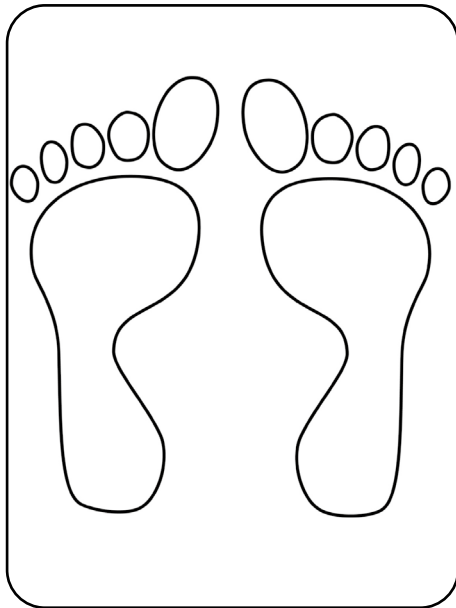
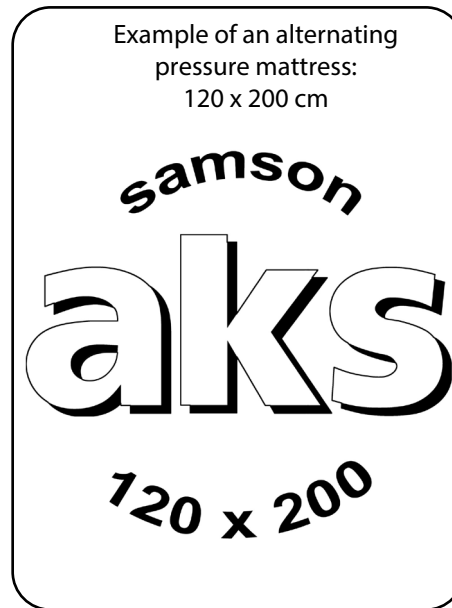

Fig. 6.01 – Mattress cover imprint with foot symbol
Fig. 6.02 – Mattress cover imprint with type designation
5. Position the alternating pressure mattress on the reclining surface of the bed so that the supply hoses are located on the bottom right at the foot end (from the view of the person lying in the bed). The “foot symbol” imprint (Fig. 6.01) on the alternating pressure mattress must be located at the foot end of the bed. The imprint with the type designation (Fig. 6.02) is then at the head side. These two imprints also indicate the top side/reclining surface of the alternating pressure mattress.